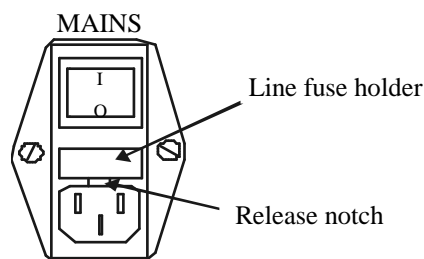

Figure 7 - 1: Replacing the line fuse
- Insert a small flat-blade screwdriver into the notch just inside the power cord socket of the line filter (see Figure 7 - 1).